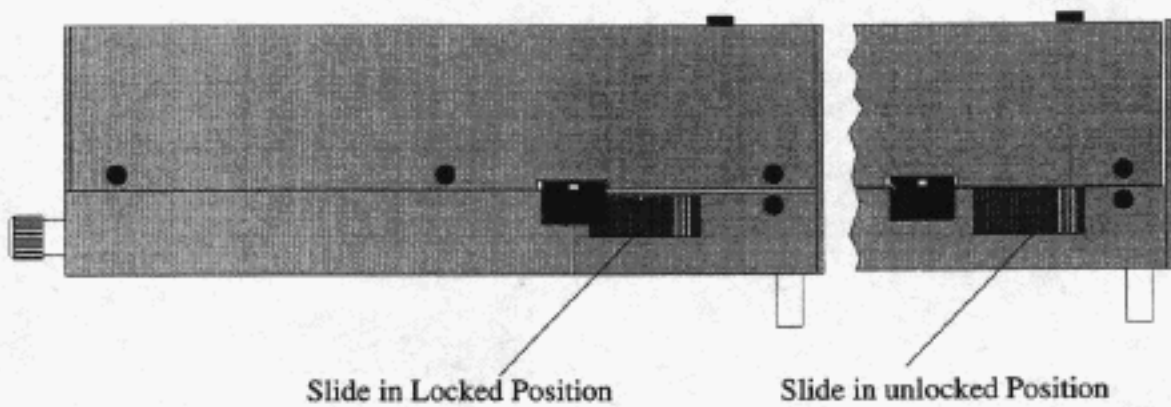

Fig. 5.07 Slide lock shown in locked position (left) and unlocked position (right).
1. Push the safety slide (that locks the shutter release) out from under the shutter release. When the slide is in place, you cannot press in the release (**Figure 5.07**).